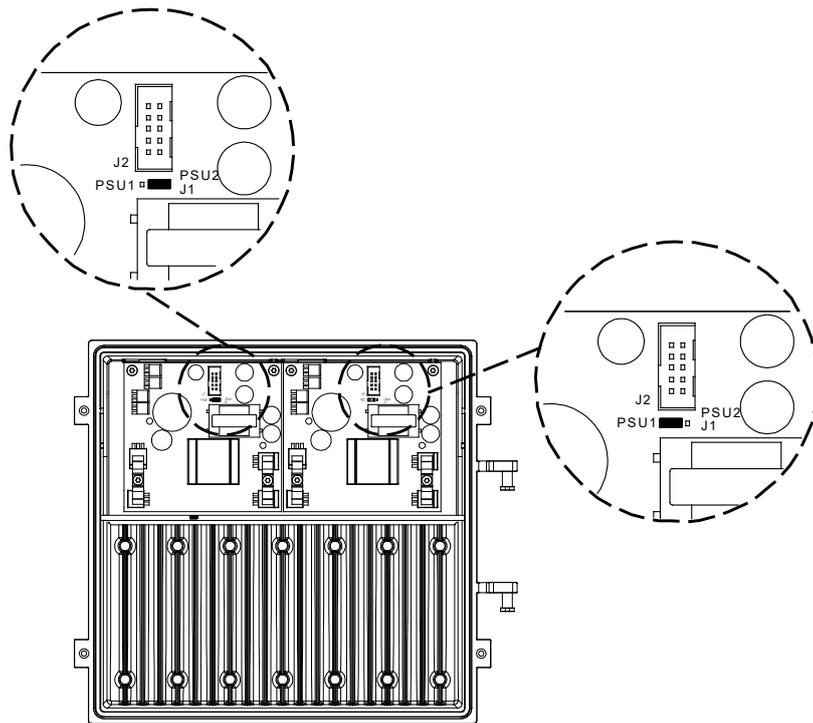

Figure 10. Diagram illustrating the AC8810 lid with both PSUs installed.
Primary and secondary power supplies are physically identical. Their functional differences are controlled by a jumper. See Figure 10 for locations of the jumper pins. The jumper must be positioned prior to installation. The primary power supply unit must be installed into the first place (closest to the hinges). Locate the 10-pin connectors and attach the supplied ribbon cable.
- jumpers is set correctly (Figure 10)